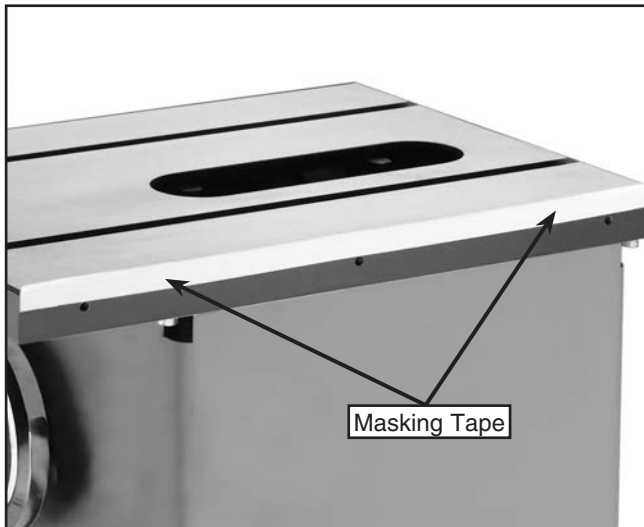

Figure 9. Using tape to shim for wing alignment.
9. If the extension wings tilt up or down at the outside edges, remove the wings and shim them with masking tape similar to **Figure 9**.